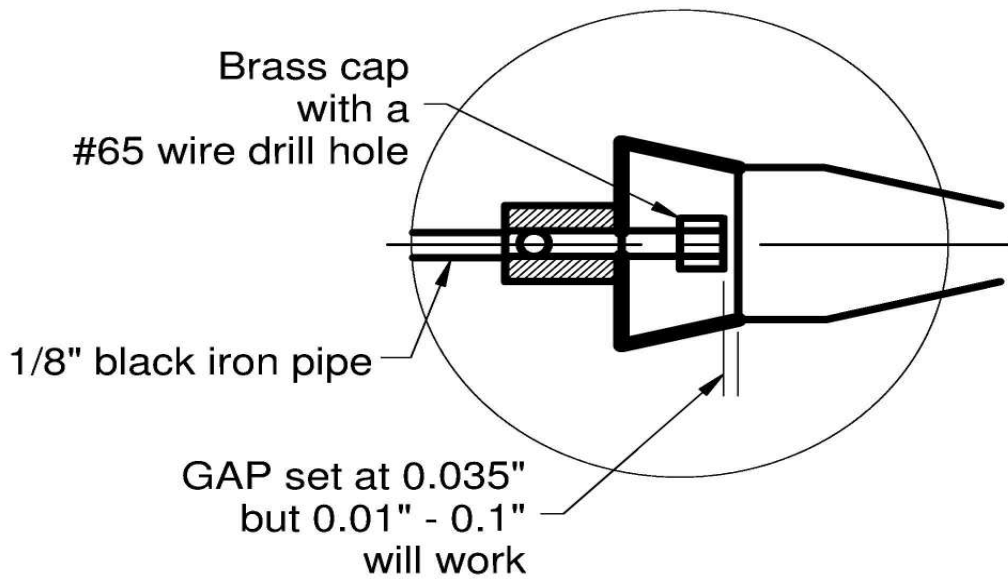

figure 1
- Make sure the orifice is the right size and is not dirty or plugged (see figure 1).